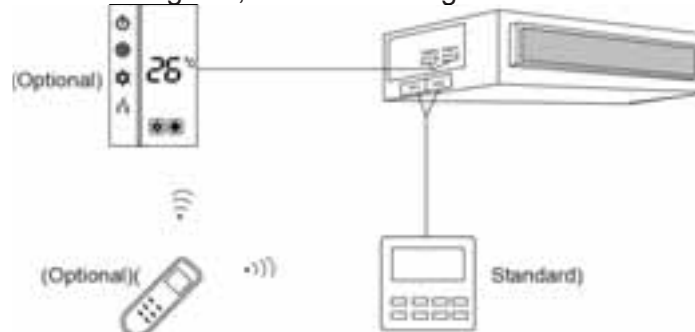

Fig 5.4.3
- 3) Wired controller and receiving light board can be used on same unit. When operating through a remote controller, both wired controller and the receiving light board can receive the signals, as shown in Fig. 5.4.3.